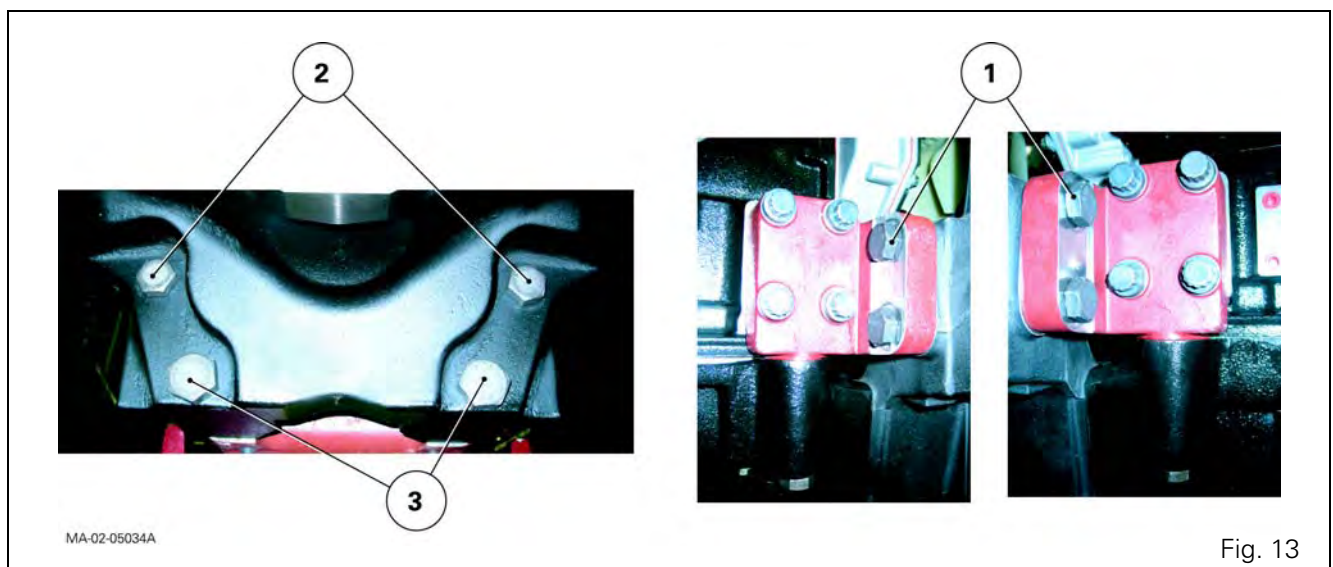

Fig. 13
24. Fit and tighten the opposed screws (Fig. 13) in the following order:
- screws (2) to a torque of 480 - 640 Nm;
- screws (3) to a torque of 800 - 1040 Nm;
- screws (1) to a torque of 240 - 320 Nm.